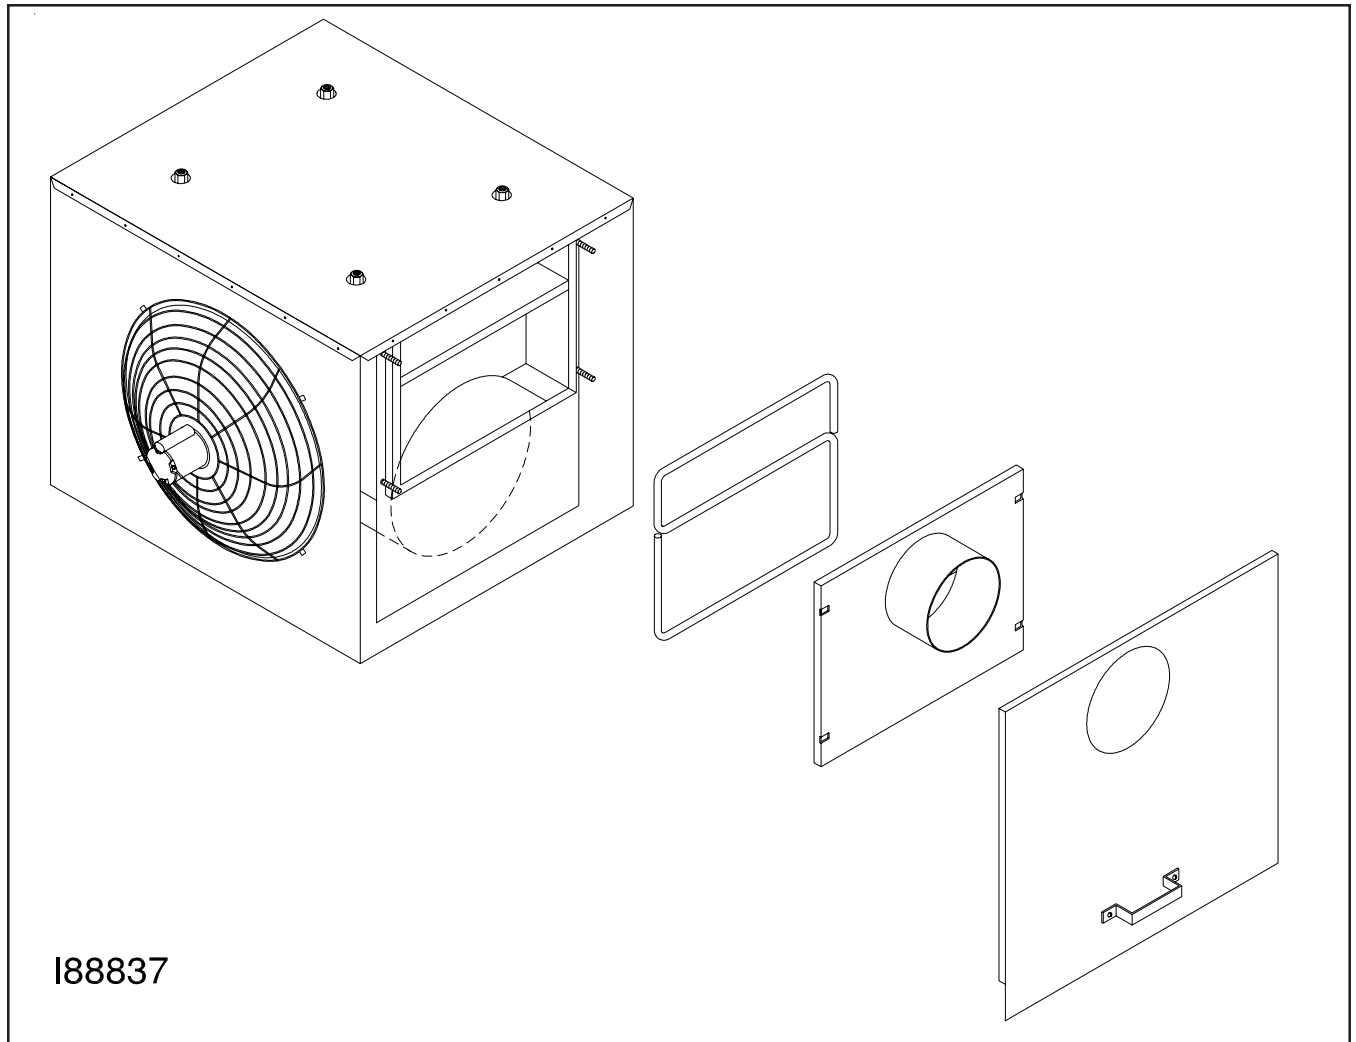

Figure 9E - Accessing the Combustion Chamber for Cleaning
4. Remove the clean-out door to clean ash from inside the combustion chamber (see Figure 9E):